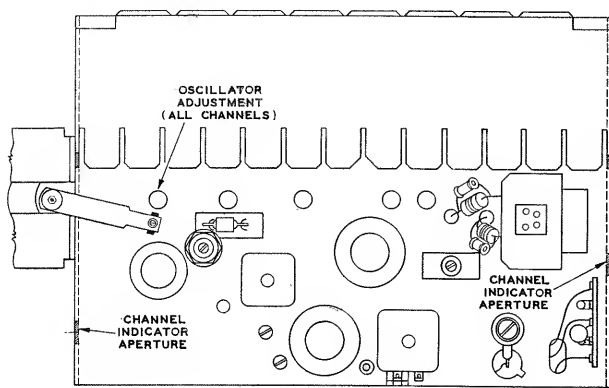

Figure 3—KRK12C Oscillator Adjustments
**CHECK OF R-F OSCILLATOR ADJUSTMENTS.** — Tune in all available UHF and VHF stations to see if the receiver r-f oscillator is adjusted to the proper frequency on all channels. Set the fine tuning control to the center of its range. Adjust the oscillator core for each channel to obtain maximum audio output without distortion. The location of the adjustment is the same for all channels (see figure 3).
The insert in the operating position can be determined by a stamping on the insert drum. This stamping is visible through the channel indicator apertures as shown in figure 3.